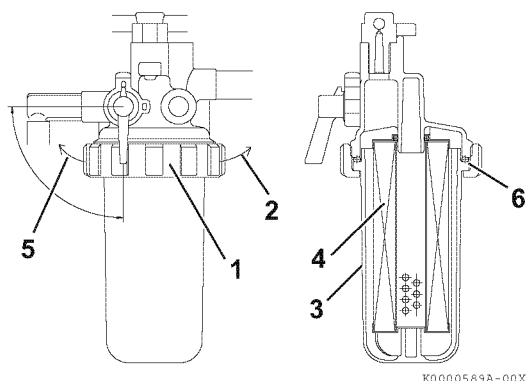

Figure 5-13
3. Turn the retaining ring (Figure 5-13, (1)) to the left (Figure 5-13, (5)).
4. Carefully remove the cup (Figure 5-13, (3)), pour the fuel into an approved container and dispose of waste properly. Hold the bottom of the cup with a shop towel to prevent the fuel from dripping. Wipe up any spills immediately.
5. Remove the element (Figure 5-13, (4)) by pulling it down.
8. Check the condition of the cup O-ring (Figure 5-13, (6)). Replace if necessary.
9. Install the cup to the mounting flange and turn the retaining ring (Figure 5-13, (1)) to the right (Figure 5-13, (2)). Hand-tighten only.